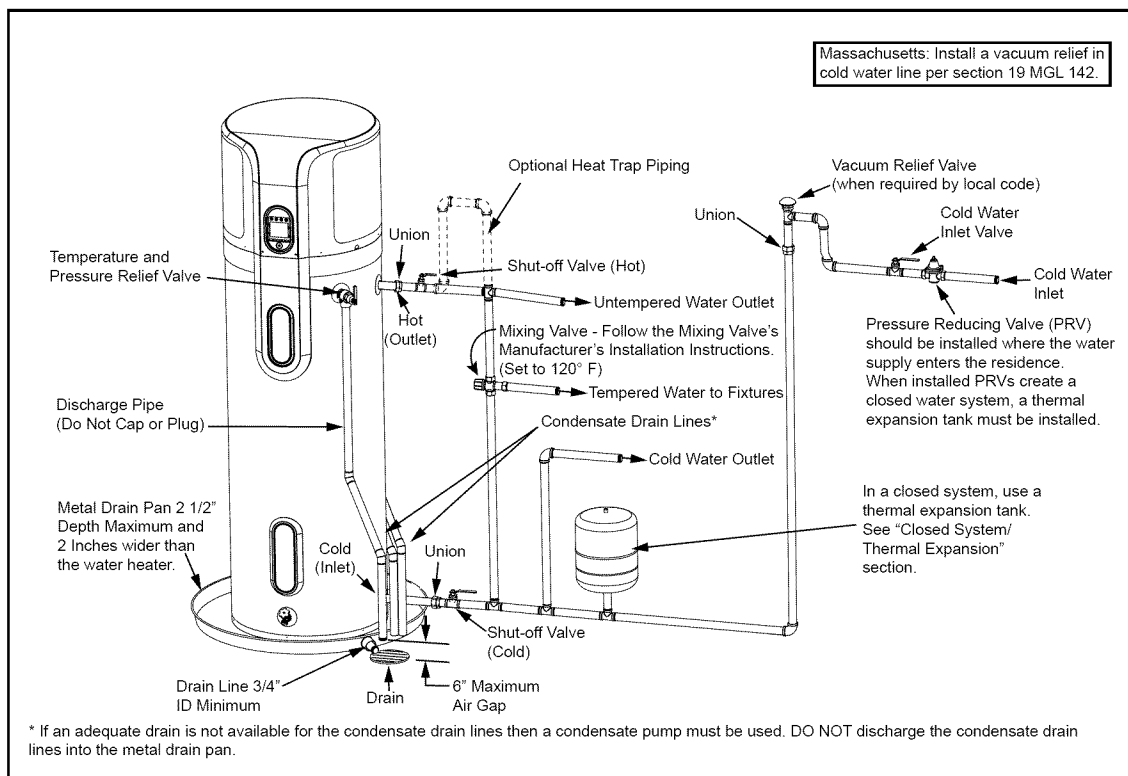

FIGURE 10.
Piping, fittings, and valves should be installed according to the installation drawing (Figure 10). If the indoor installation area is subject to freezing temperatures, the water piping must be properly insulated.
1. Install the water piping and fittings as shown in Figure 10. Connect the cold water supply (3/4" NPT) to the fitting marked "Cold". Connect the hot water supply (3/4" NPT) to the fitting marked "Hot".
3. Some local codes may require, and the manufacturer of this water heater recommends, installing a mixing valve or an anti-scald device in the domestic hot water line as shown in Figure 10. These valves reduce the point-of-use temperature of the hot water by mixing cold and hot water and are readily available. Contact a licensed plumber or the local plumbing authority for more information.
4. Some local codes may require, and the manufacturer of this water heater recommends, installing a pressure reducing valve (PRV) in the cold water inlet line where it enters the residence as shown in Figure 10.